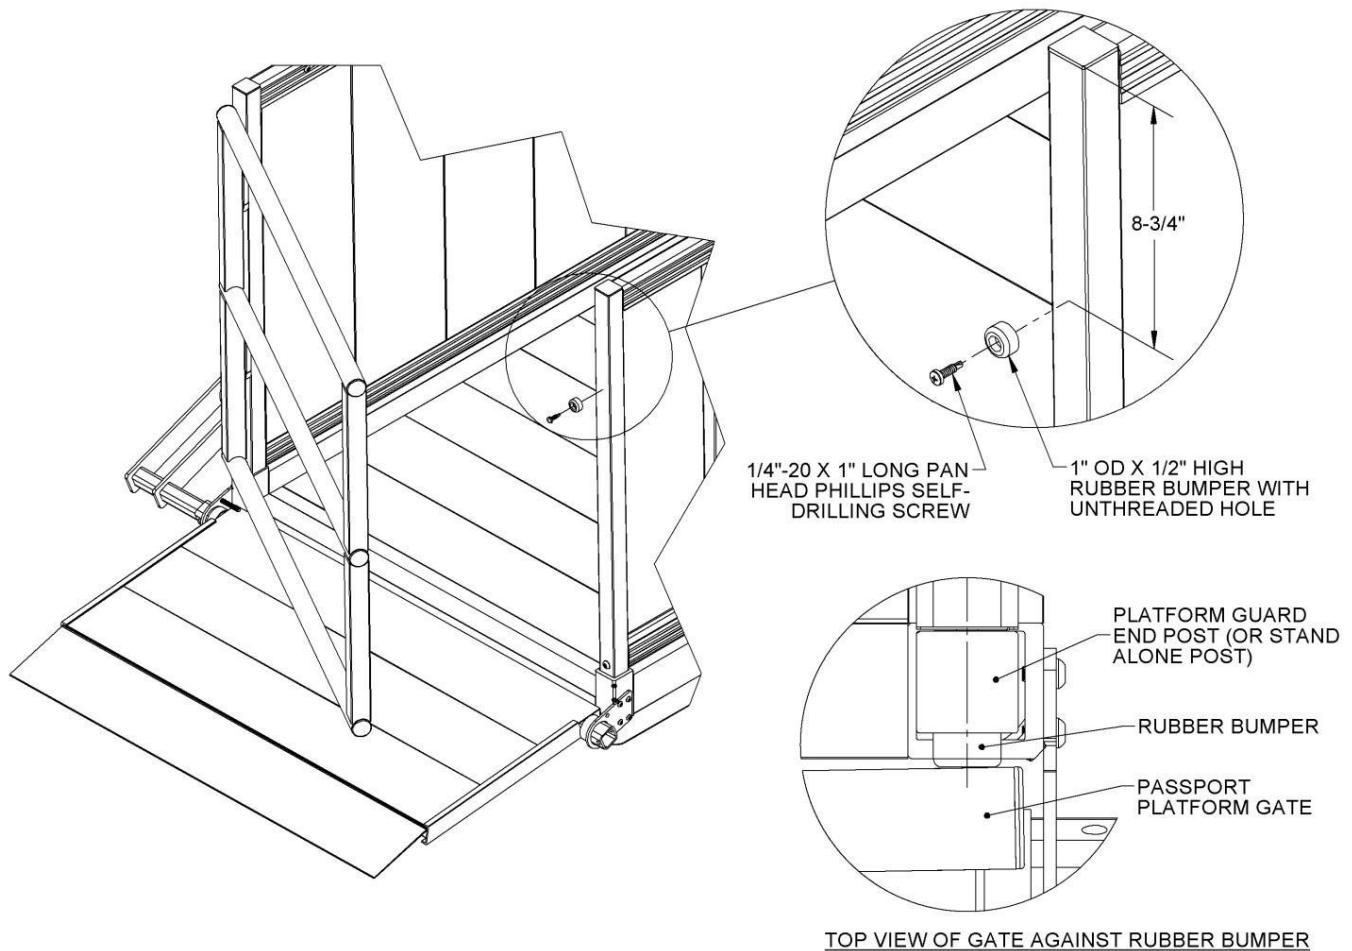

FIG. 18.2
- 18.2.6.1. Attach the rubber bumper to the post using one 1/4"-20 X 1" pan head Phillips self-drilling screw (FIG. 18.2).